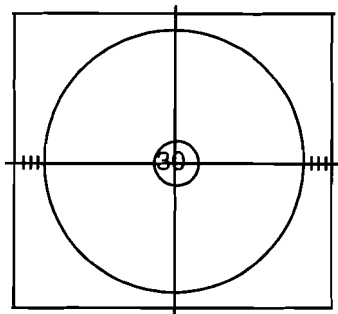

Figure 25. Pattern
7. Use DAC V4 (Horizontal Size) to adjust left and right area to show 5 lines. (Figure 25).